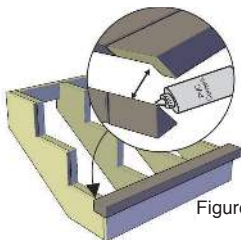

Figure 2
- Miter and pre-assemble the trims and decking for each step (fig 2).